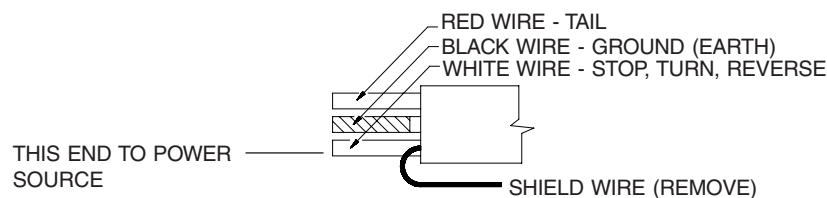

FIGURE 3
5. At the light head end of the cable, insert the AMP sockets into the AMP socket housing as shown in Figure 3. Cut the shield wire flush with the jacket.